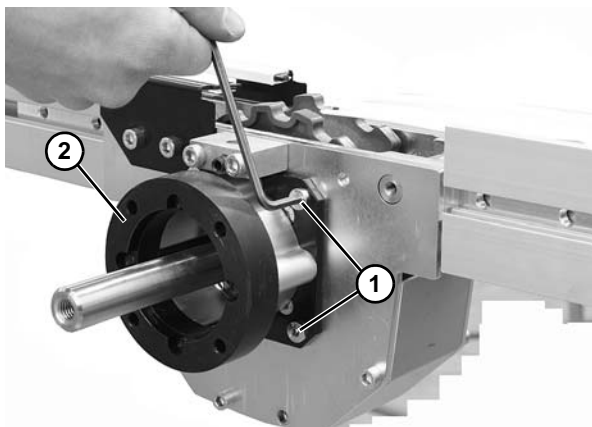

**Figure 88**
6. Use belt removal tool #203480 (**Figure 88, item 1**) or a punch and hammer to push the belt rod out by striking the rod end.